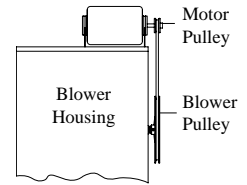

Fig. 2
- **Motor pulley.** Install the motor pulley so that it aligns with the blower pulley (see Fig. 2) and tighten set screw. See page 3 for instructions on adjusting pulley.